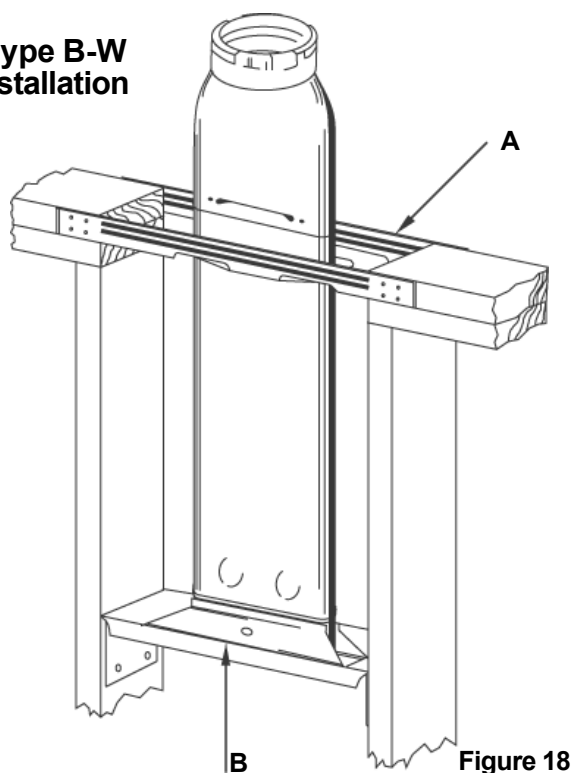

Figure 18
- The installation must contain an Oval Hold-Down Plate (4OHD) at the base, Oval Plate Spacers (4OPS) at the first ceiling level, and Firestop Spacers (4OPS) at any additional floor levels. See **Figures 18** and **19**.
- Nail one Plate Spacer (40PS), (A), across cut-out area in ceiling plate. See **Figure 18**. Plate Spacer (4OPS) is required at the first ceiling level above a wall furnace to center and space vent properly and to provide the required opening between floors.
- Snap Hold-Down Plate (4OHD), (B), onto bottom end of pipe as shown in **Figure 18**. Install Vent Section in position. Use two No. 8 binder head sheet metal screws to attach Hold-Down Plate firmly to Furnace header plate through pre-punched holes.
- Nail second Plate Spacer across cutout ceiling plate as shown in **Figure 18**. Firestop Spacers (OFS) must be used at subsequent levels.